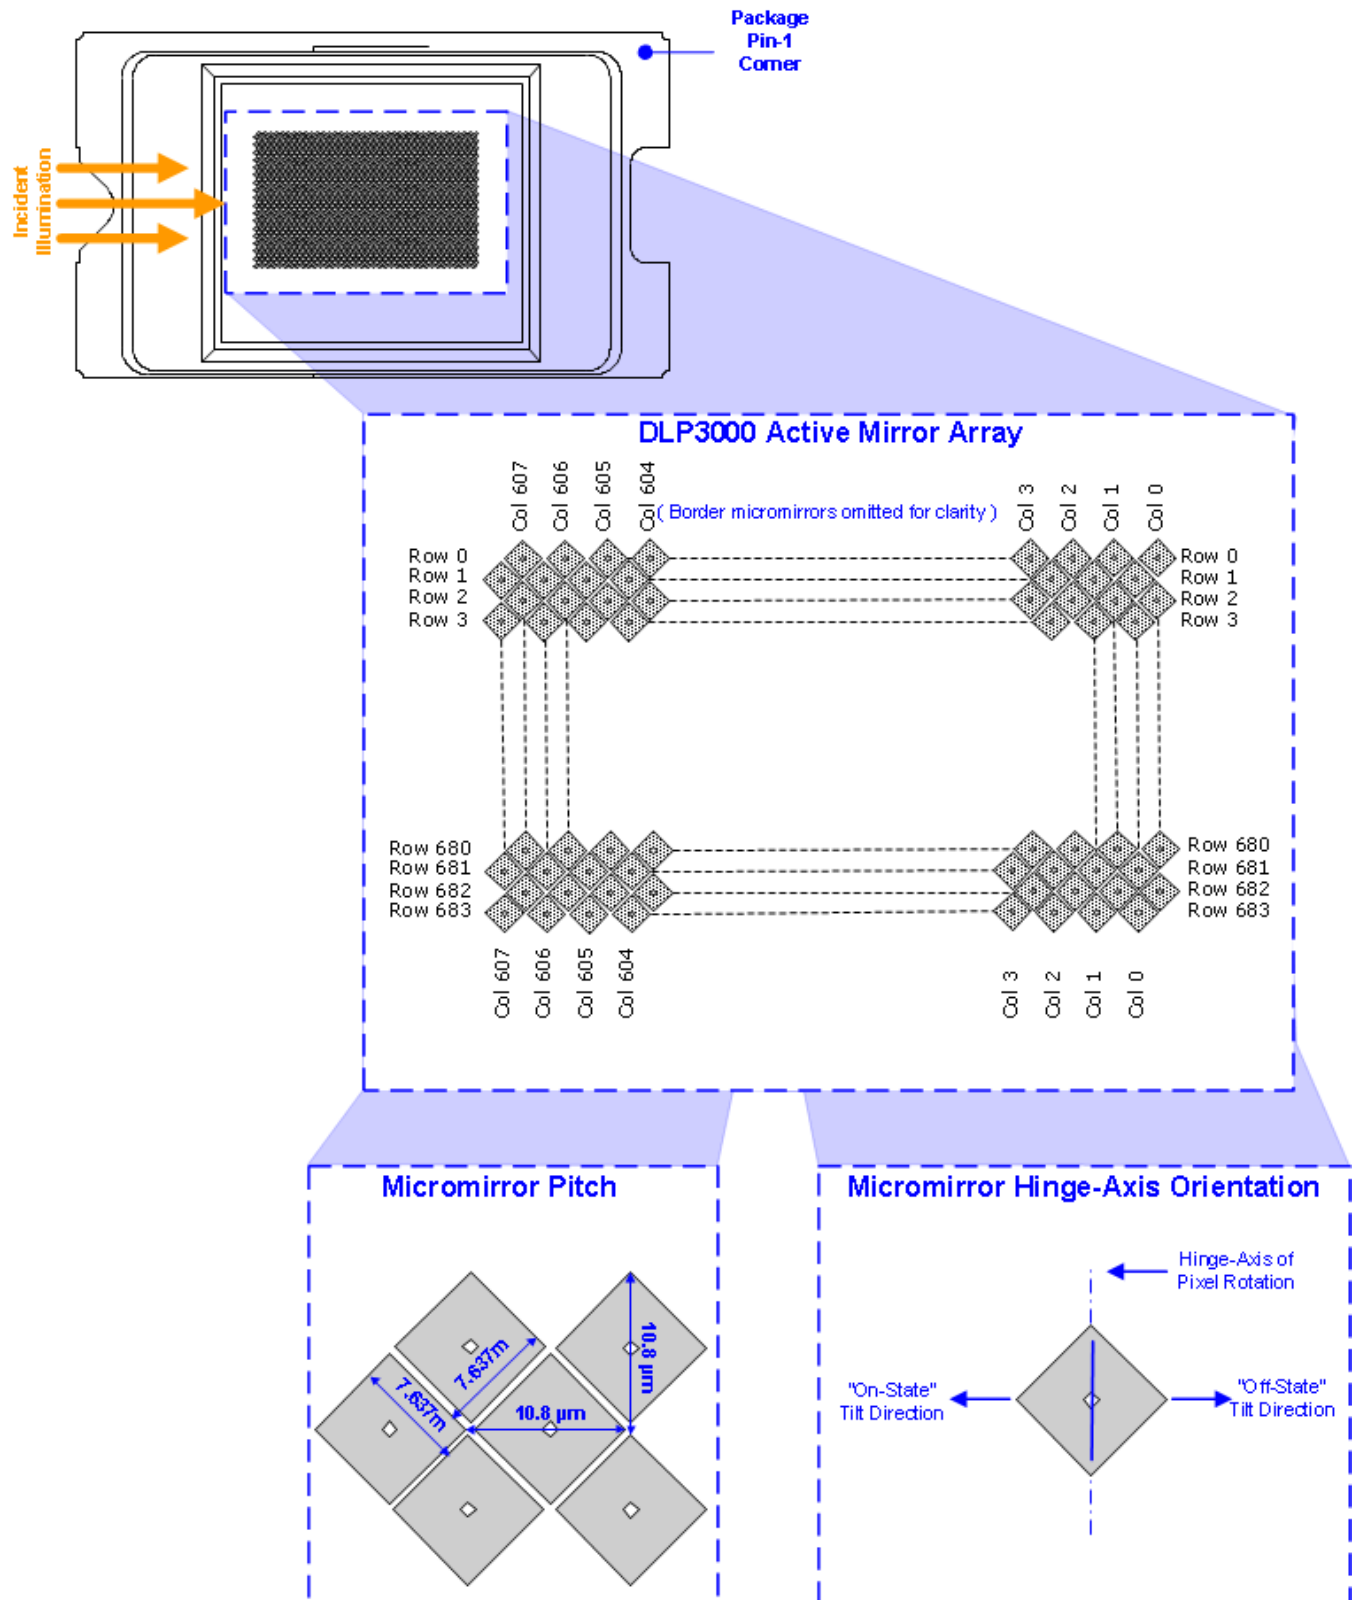
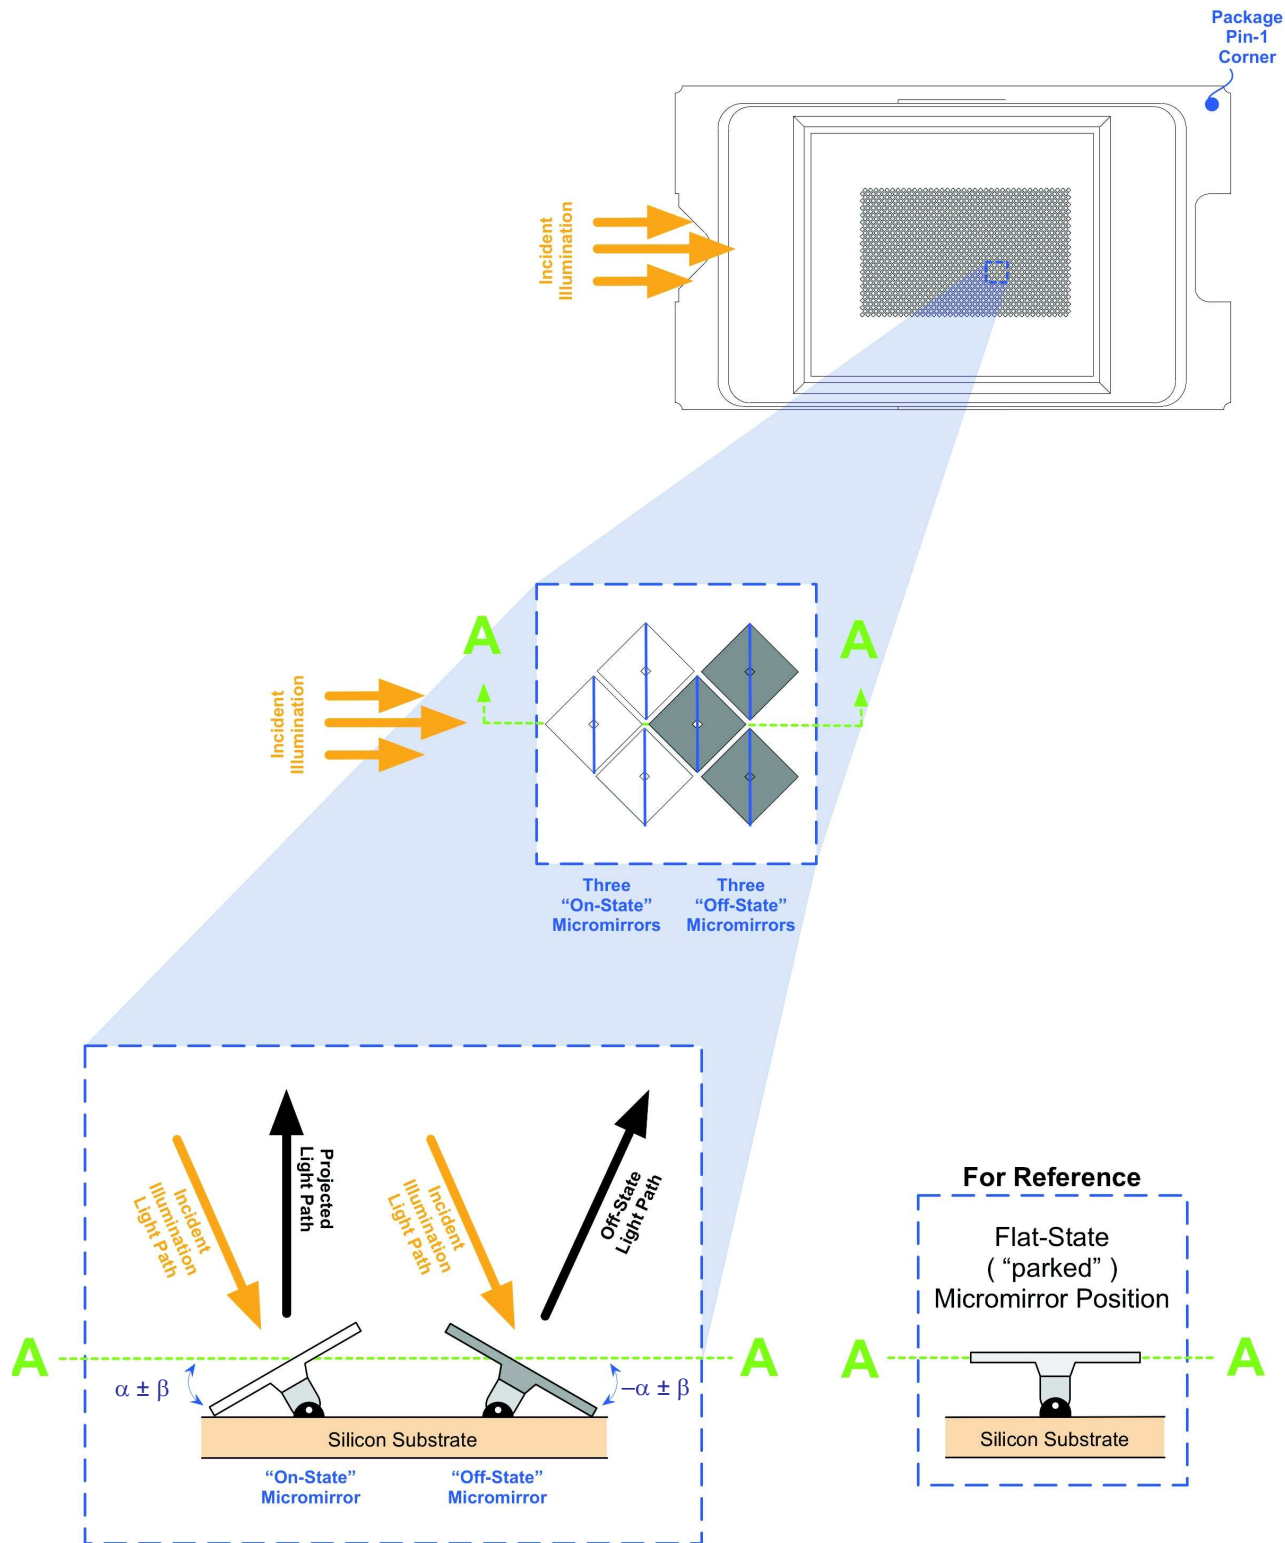

Figure 9. Micromirror Array, Pitch, and Hinge-Axis Orientation
Figure 10. Micromirror Landed Positions and Light Paths
- (4) The mirrors that form the array border are hard-wired to tilt in the -12° (off) direction once power is applied to the DMD (see Figure 9 and Figure 10).
The DLP3000 is a 0.3 inch diagonal spatial light modulator which consists of an array of highly reflective aluminum micromirrors. Pixel array size and diamond grid pixel arrangement are shown in Figure 9. The DMD is an electrical input, optical output micro-electrical-mechanical system (MEMS). The electrical interface is Double Data Rate (DDR) input data bus.
Optically, the DLP3000 consists of 415872 highly-reflective, digitally-switchable, micrometer-sized mirrors (micromirrors) organized in a 2-D array. The micromirror array consists of 608 micromirror columns by 684 micromirror rows in diamond pixel configuration (Figure 9). Due to the diamond pixel configuration, the columns of each odd row are offset by half a pixel from the columns of the even row.
Each aluminum micromirror is approximately 7.6 microns in size (see *Micromirror Pitch* in Figure 9) and is switchable between two discrete angular positions:  $-12^\circ$  and  $+12^\circ$ . The angular positions are measured relative to a  $0^\circ$  flat reference when the mirrors are parked in their inactive state, parallel to the array plane (see Figure 10). The tilt direction is perpendicular to the hinge-axis. The on-state landed position is directed toward the left side of the package (see *DLP3000 Active Mirror Array*, *Micromirror Pitch*, and *Micromirror Hinge-Axis Orientation* in Figure 9).